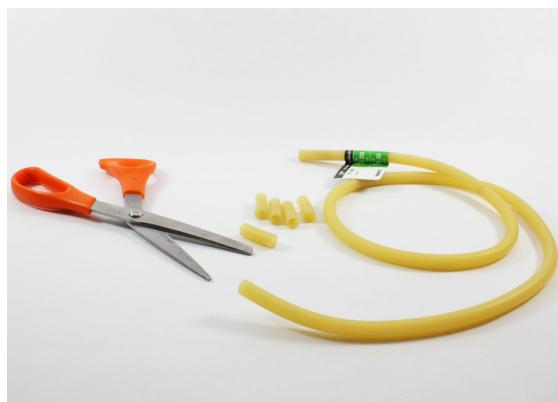

Figure 13-5 Cutting latex tubing into 1" lengths
2. Next, you'll want to cut the latex tubing into twelve 1" long pieces (Figure 13-5). These will hold your dowels together and form a universal joint. If you can't find latex tubing, something else will work as long as it's soft enough to bend easily and fits snugly over the dowel. You can size the dowels up or down as needed too, as long as they are thick enough to not bend easily.